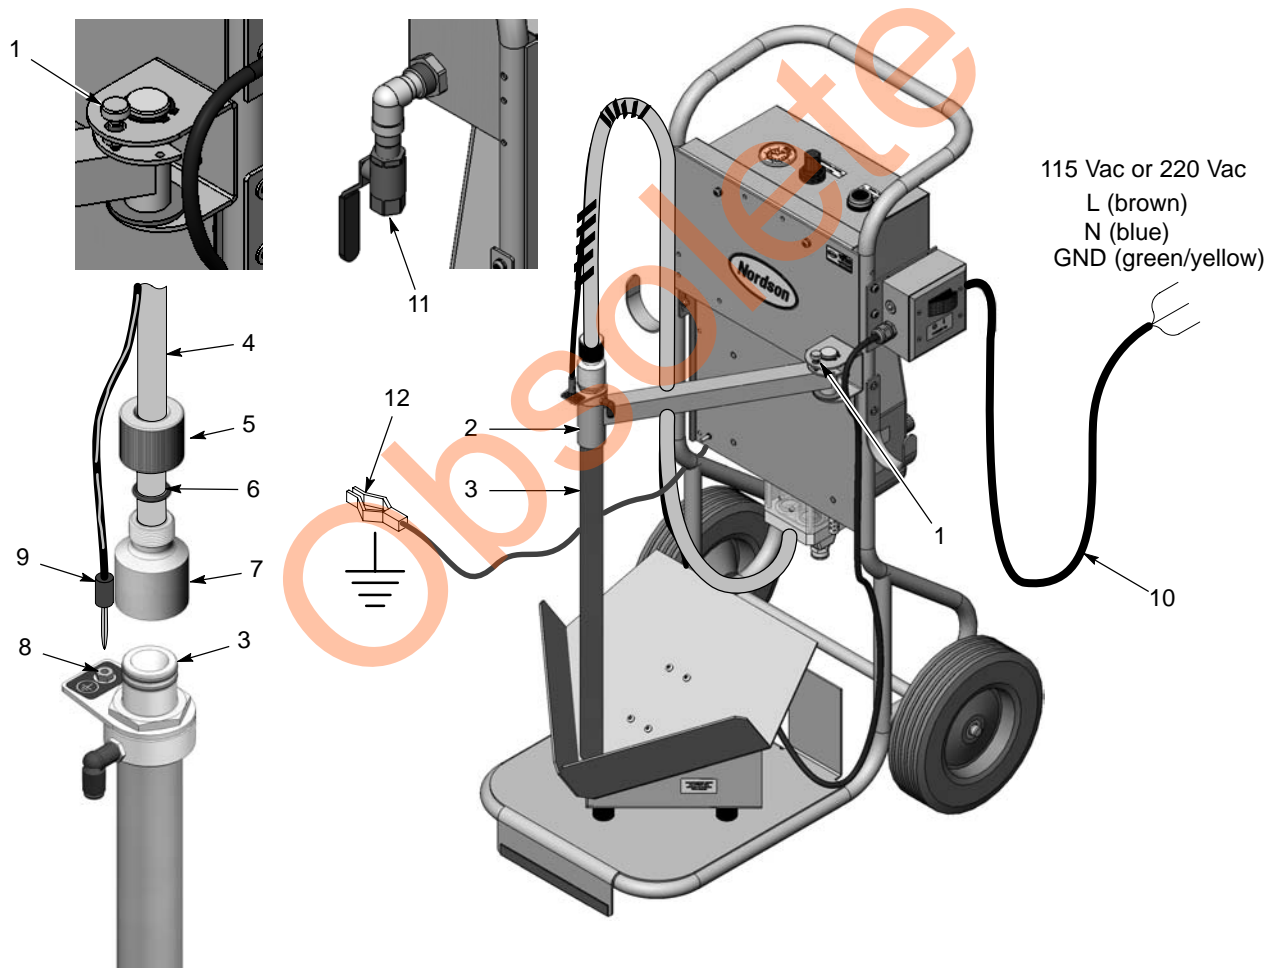

Figure 2 Installation
2. See Figure 2. Pull up on the lock knob (1) and swing the pickup tube arm (2) out. Release the lock knob to hold the arm in place.
3. Install the pickup tube (3) into the collar on the end of the arm.
4. Connect the 16-mm transfer tubing (4) to the pickup tube adapter.
5. Plug the ground wire (9) into the ground socket (8) on the pickup tube.
6. Connect the three leads of the electrical cable (10) to a three-pronged electrical plug or electrical panel. Electrical power supplied to the system must match the vibrator motor rating.
7. Connect a source of compressed air to the 1/2 in. NPT ball valve (11).
8. Connect the ground cable clamp (12) to a true earth ground.